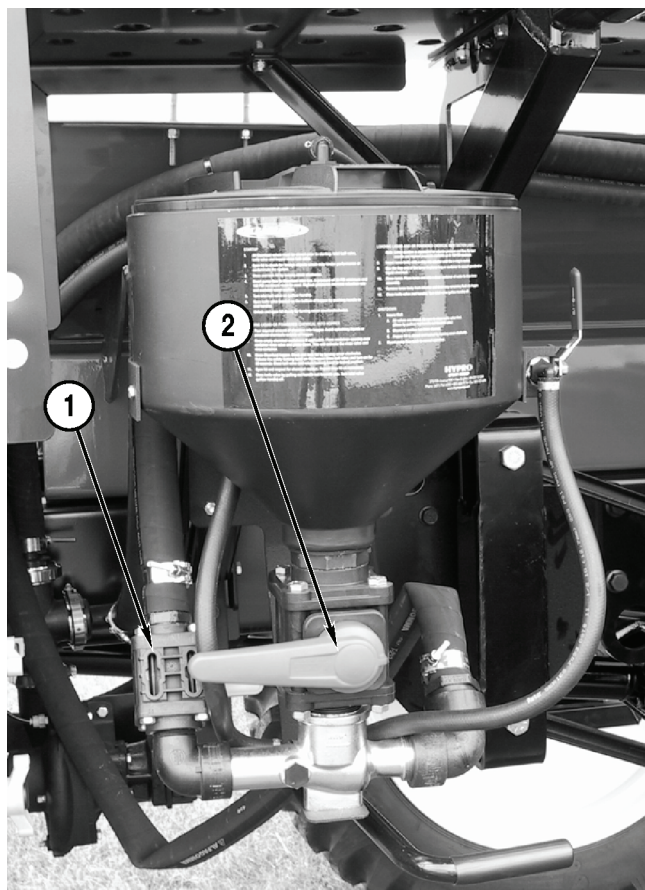

Figure 4-44
1. All Cleanload valves must be closed prior to starting. Close the inlet ball valve (**Figure 4-44, 1**) and hopper ball valve (**Figure 4-44, 2**).
5. Turn the yellow handle of the inlet ball valve (**Figure 4-44, 1**) to the OPEN position.
6. Open the hopper ball valve (**Figure 4-44, 2**), located on the bottom of hopper, by rotating the handle into a vertical position.
8. Close the hopper ball valve (**Figure 4-44, 2**) by rotating the handle into a horizontal position (shown).
9. Turn the inlet valve (**Figure 4-44, 1**) (yellow handle) off.